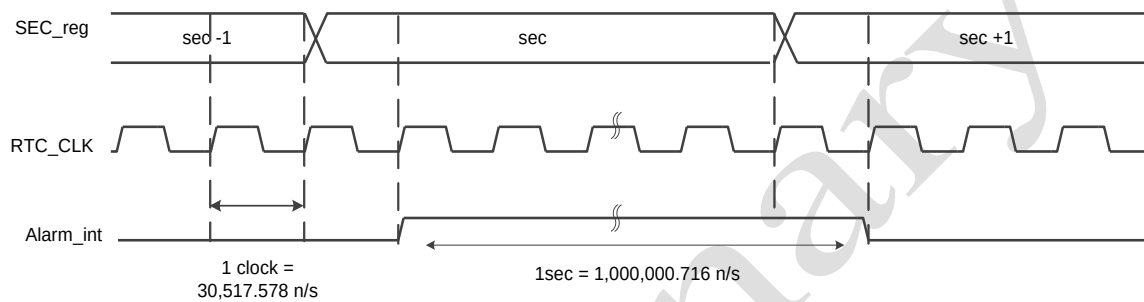

Figure 12-3 Alarm Interrupt Operation
- * Configure alarm interrupt using Control register[3:0], and then alarm register write, it generate interrupt on desired time. (Refer to Figure 12-3)